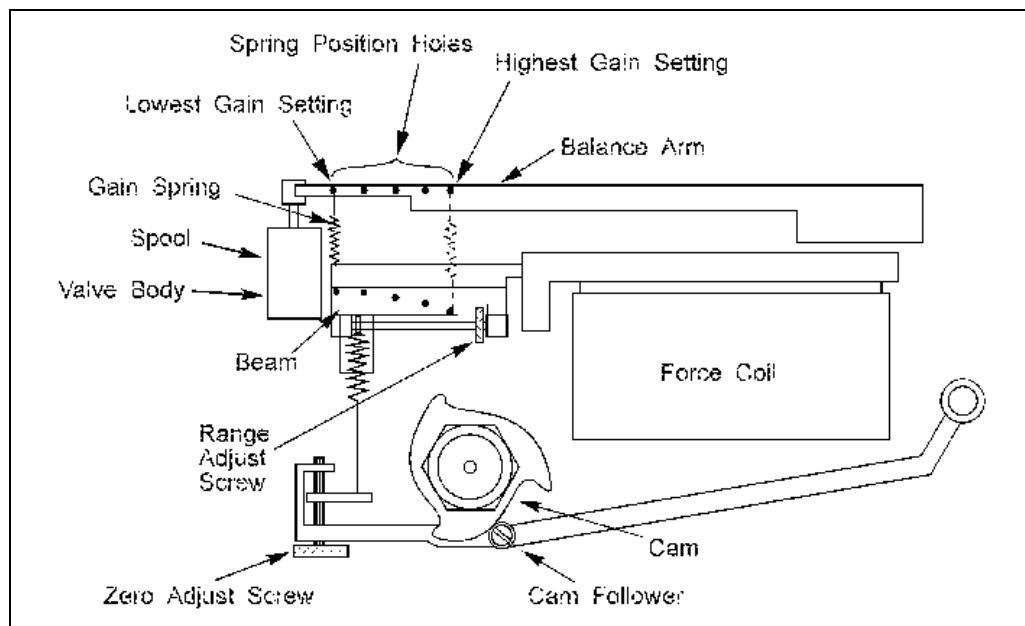

Figure 1 – Component Identification
8. Ensure the spool does not bind against the tip of the balance arm. See Figure 1 for parts location.
2. Turn the zero adjust screw clockwise until the valve closes. (See Figure 1 for location of adjusting screws.)